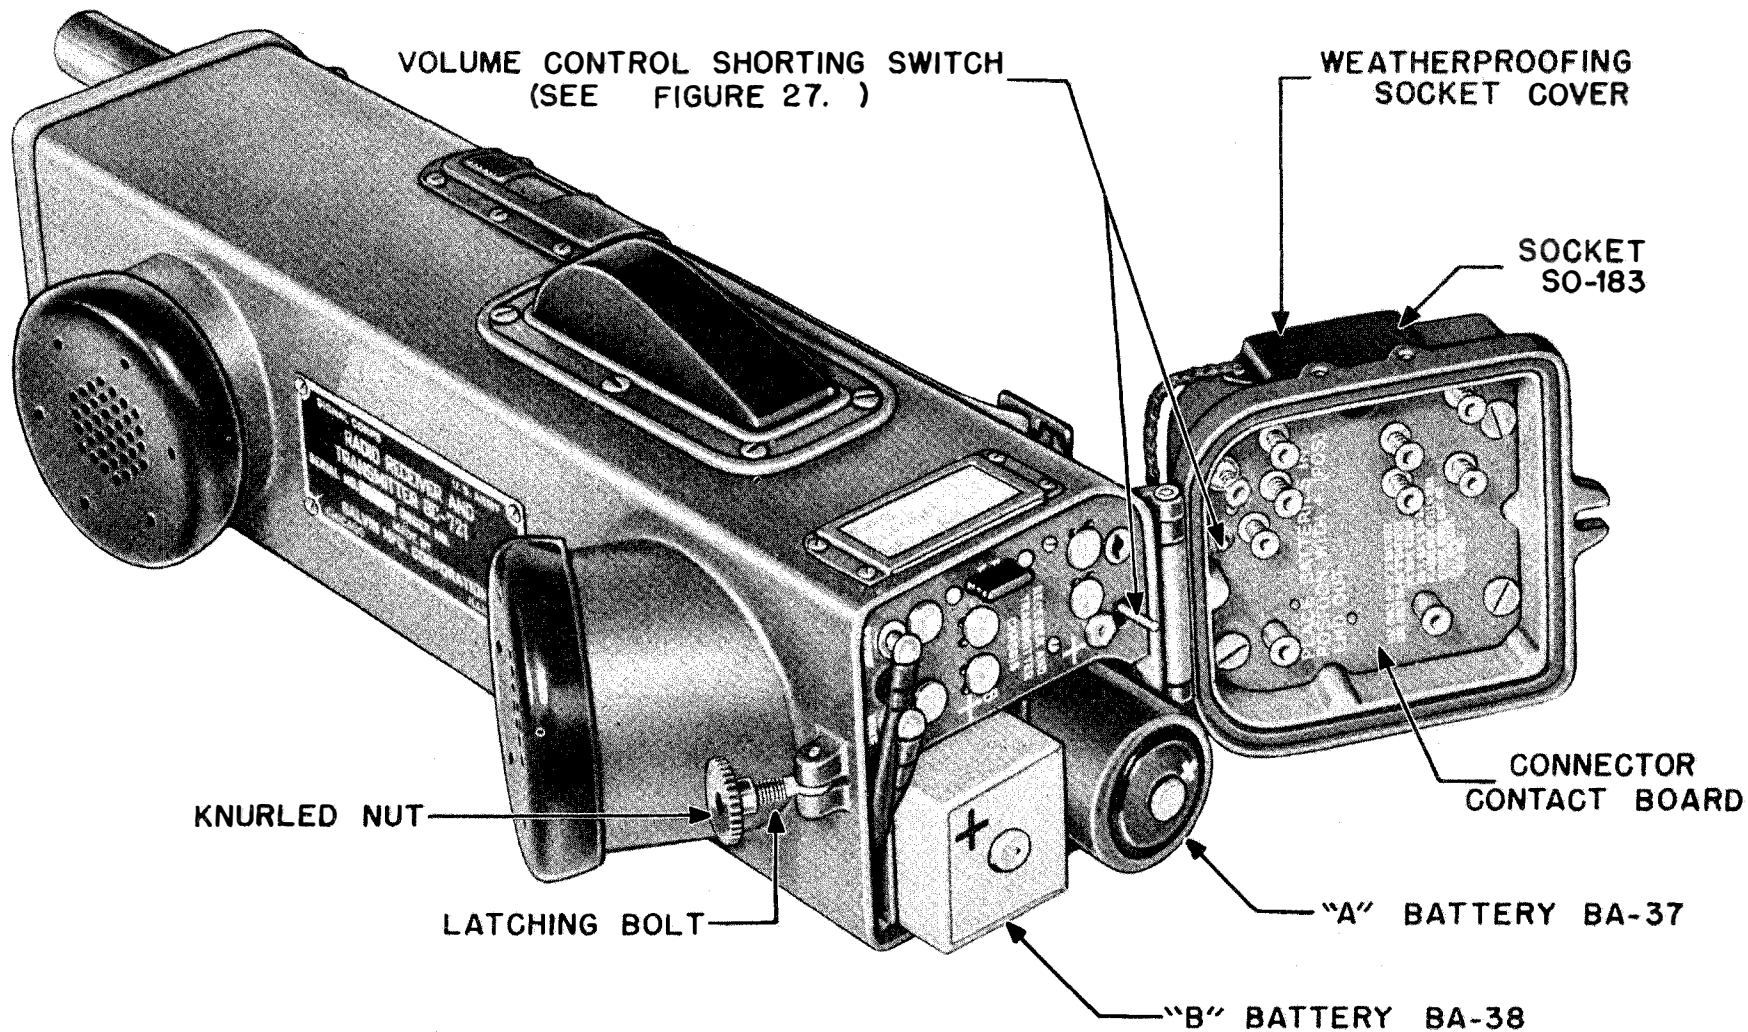

FIG. 5. RADIO RECEIVER AND TRANSMITTER BC-721-B, SHOWING BATTERY COMPARTMENT
The bottom of the case of Radio Receiver and Transmitter BC-721-B has a hinged cover which permits access to the batteries and the radio chassis. See Fig. 5.
connections between the batteries and the radio chassis, as well as to the Socket SO-183 which makes the necessary electrical connection with Mounting FT-295-B. See Fig. 5.
10. INSTALLATION OF BATTERIES BA-37 AND BA-38.—The set is furnished by the manufacturer with everything contained in the housing except batteries. However, the necessary batteries to put the set into operation must be in place. To install the batteries, open the bottom cover by turning the knurled nut on the latching bolt counter-clockwise, until the nut begins to turn with difficulty. Then press the cover against the case and push the bolt away from the housing. Release the cover and it will open. See Fig. 5.